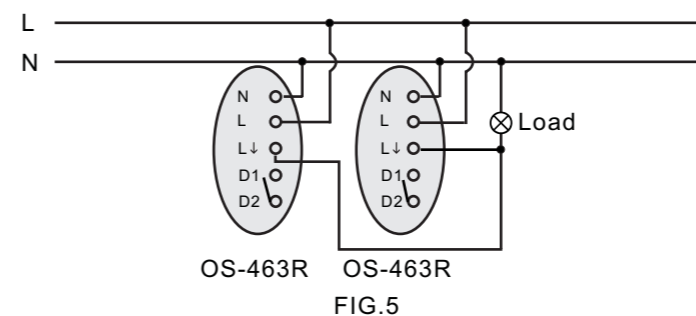

FIG.5
3.2.2 One load is controlled by two detectors to enlarge detection range (See FIG.5).